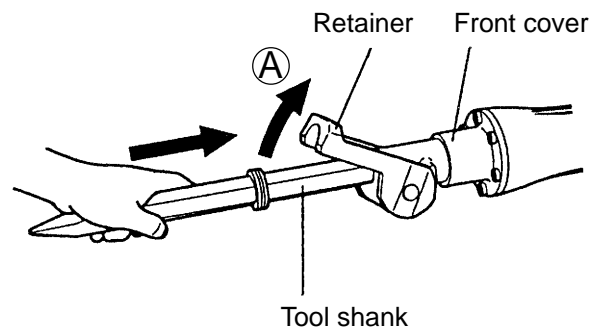
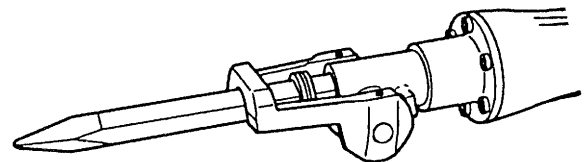

Fig. 9
Fig. 10
- (1) Mounting air tool shank tool and standard hex. shank tool
Raise the retainer in (A) direction and insert the tool shank into the hexagonal hole of the front cover as far as it will go (Fig. 9). Put the retainer back in position to fix the tool shank (Fig. 10).